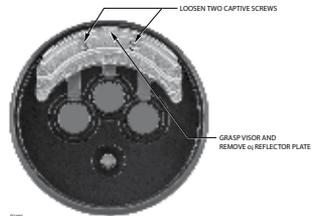

Figure 19— σ_j Reflector Plate Removal
2. Loosen the two captive screws, then grasp the σ_j reflector plate by the visor and remove it from the detector. See Figure 19.